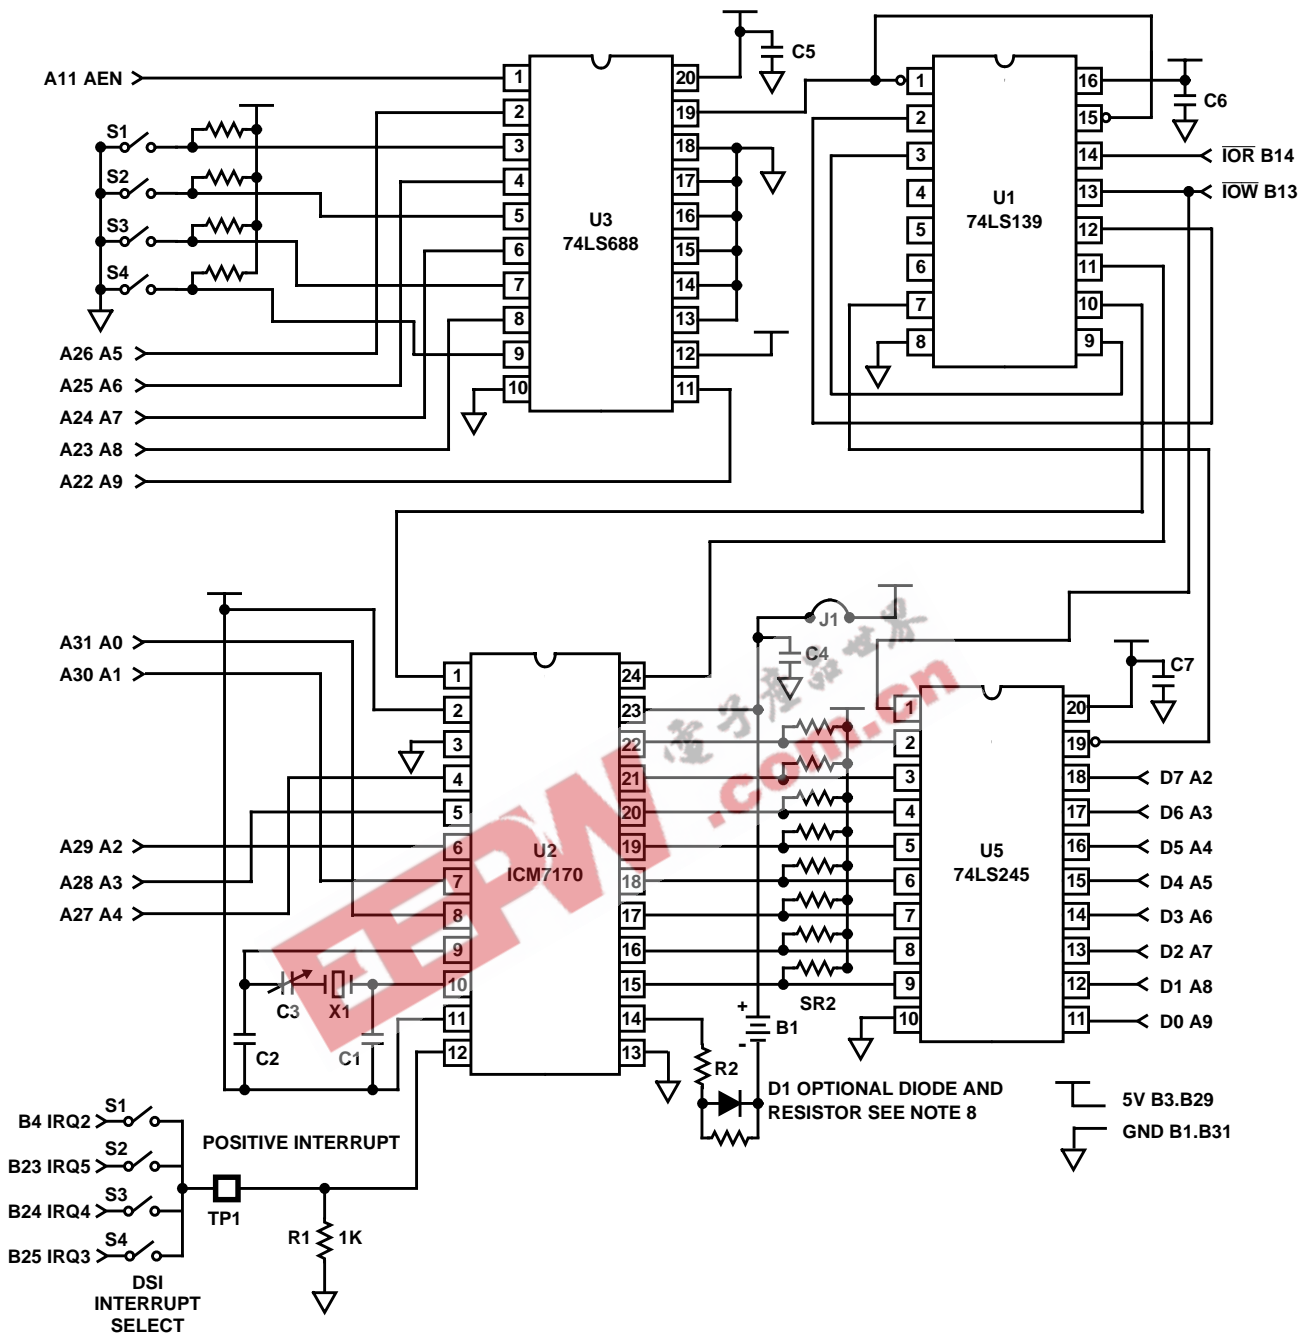

FIGURE 9. IBM PC INTERFACE FOR ICM7170Y
Figure 9 shows the schematic of a board that has been designed to plug into an IBM PC/XT (Note 1) or compatible computer. In this example  $\overline{CS}$  is permanently tied low and access to the chip is controlled by the  $\overline{RD}$  and  $\overline{WR}$  pins. These signals are generated by U1, which gates the IBM's  $\overline{IOR}$  and  $\overline{IOW}$  with a device select signal from U3, which is functioning as an I/O block address decoder. DS1 selects the interrupt priority.
- 8. VBACKUP DIODE** - Lithium batteries may explode if charged or if discharged at too high a rate. These conditions could occur if the battery was installed backwards or in the case of a gross component failure. A 1N914-type diode placed in series with the battery as shown in Figure 9 will prevent this from occurring. A resistor of  $2M\Omega$  or so should parallel the diode to keep the  $V_{BACKUP}$  terminal from drifting toward the  $V_{SS}$  terminal and shutting off ICM7170 I/O during normal operation.